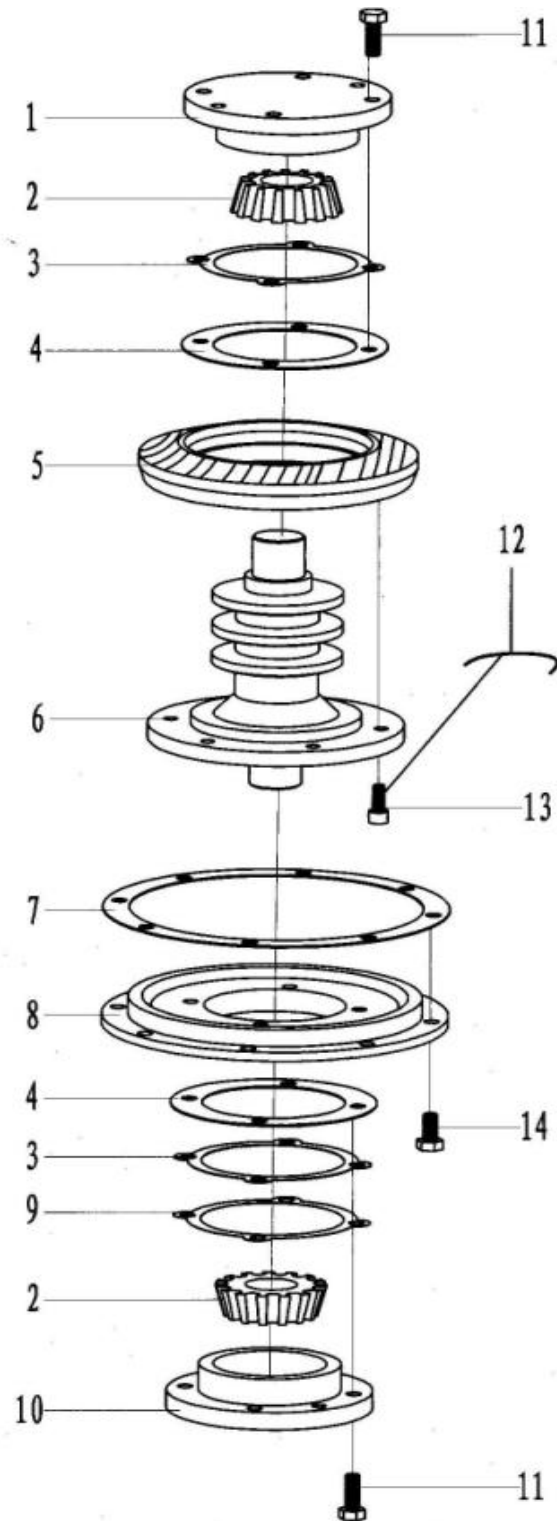

Fig. 19
10.6 Assembly of Sprocket (Fig. 19, Table 6)